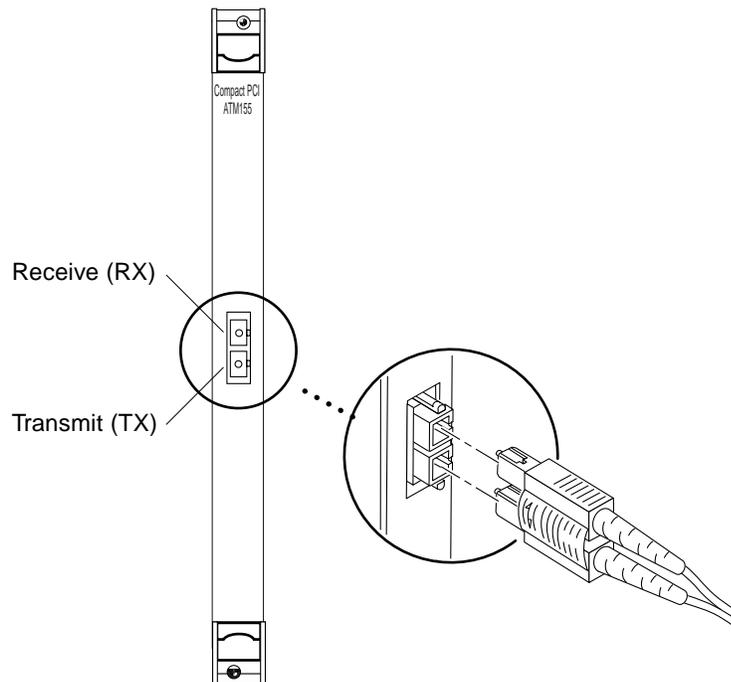

FIGURE 3-12 Connecting a Network Cable to the Rear Transition Card
The rear transition card contains an SC fiber connector already keyed, with receive (RX) on the top and transmit (TX) on the bottom (see FIGURE 3-12).